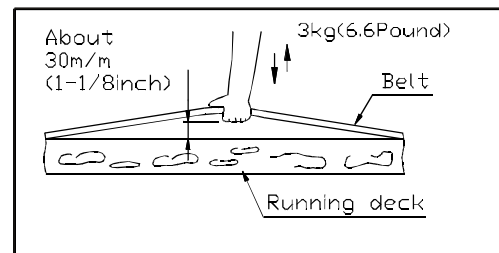

Fig.7-1
7. Connect power cable as indicated in Fig.7-1, and fasten it.